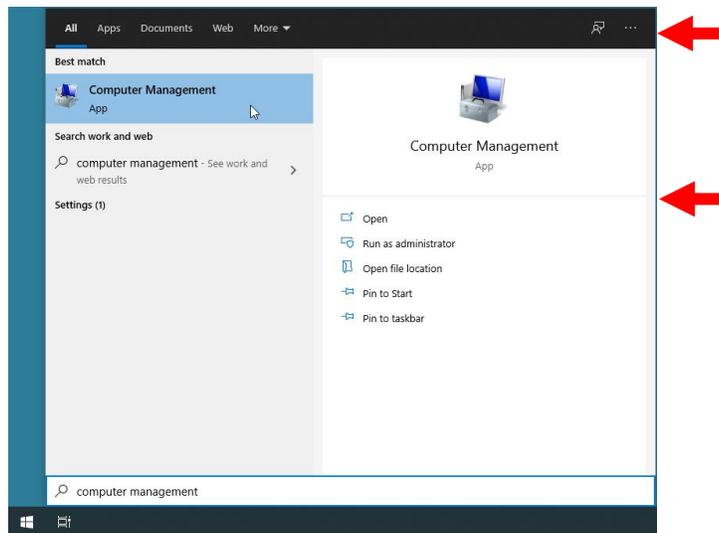

Figure 2. Working from the Start Menu
1. From the **Start Menu**, type “computer management” Figure 2 displays.